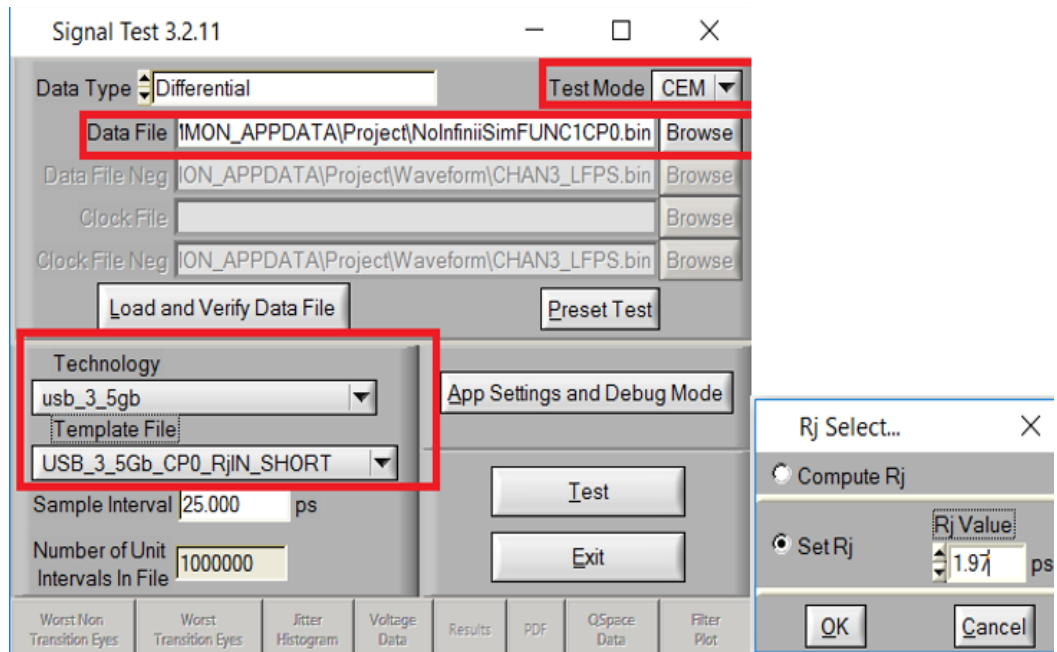

Figure 32 SigTest tool settings for measuring DJ, TJ and Eye Height
- 11 Load the waveform file. Select the options for Technology and Template File as shown in Figure 32.